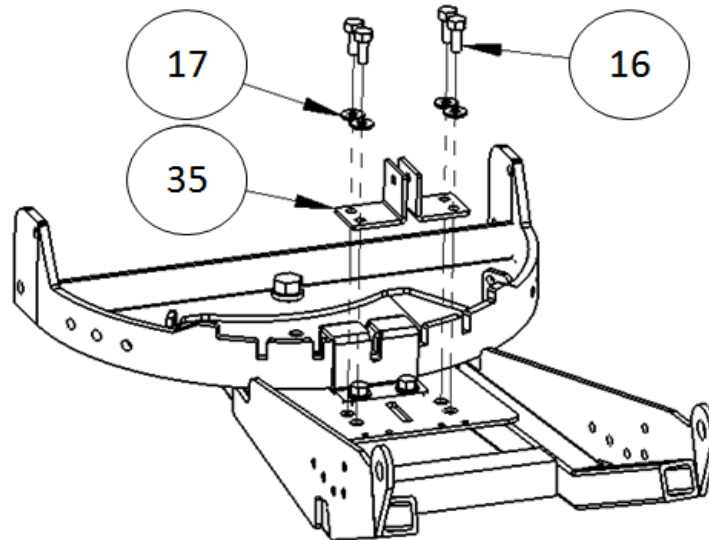

Figure 8
- 8) Attach the Pivot Lever Risers (#35) to the Lift Arm Assembly via the 3/8" Bolts (#16) and Washers (#17) included in your kit (**Figure 8**). Do not tighten the 3/8" hardware at this time, it will be tightened after Step 9.